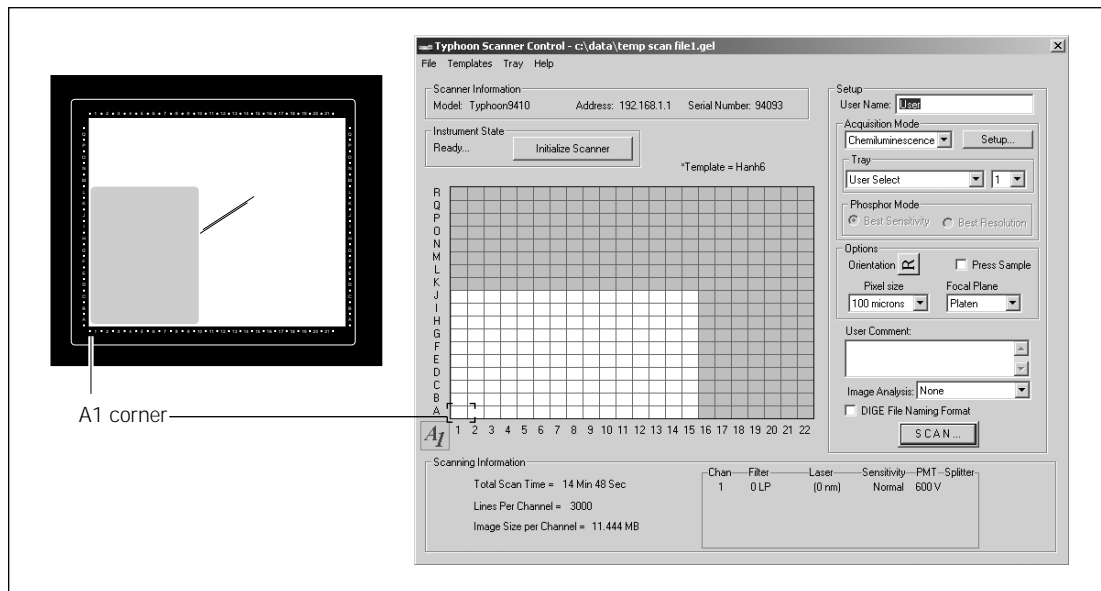

Figure 12-2. Selecting the scan area.
1. Place the pointer in the grid square that corresponds to the lowest lettered and numbered grid square of the area you want to scan (figure 12-2). For example, grid square A1 is the lowest lettered and numbered grid square on the glass platen.